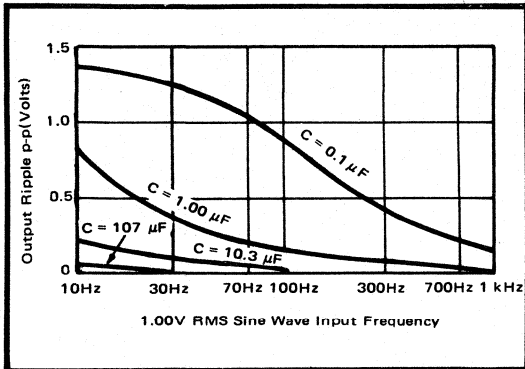
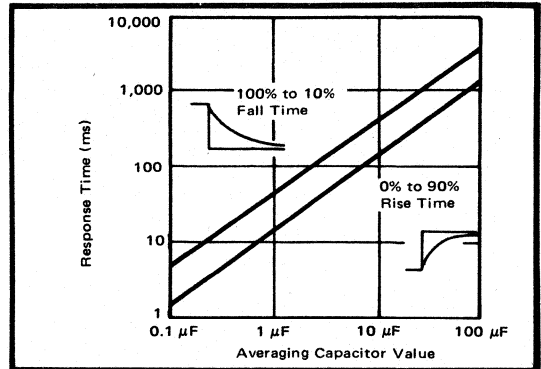

FIGURE 2. Output Ripple Magnitude vs. Input Signal Frequency.
FIGURE 3. Response Time vs. Value of Averaging Capacitor.
- (1) After standard trim procedure (see below).
(2) Model 4341 will convert DC inputs. Lower frequency AC inputs require a large value of averaging capacitor to minimize ripple at output. (See Figure 2)
A single-pole low pass RC filter provides the averaging function. The time constant is  $1/2 RC$  where R is 10 k when the 4341 is adjusted for unity gain. To select the best value of C, make a tradeoff between output ripple and response time. Figure 2 shows the ripple magnitude vs. frequency for several typical values of capacitor. Response time vs. capacitor value is shown in Figure 3. (Note that rise times and fall times are different for the same value of capacitor).